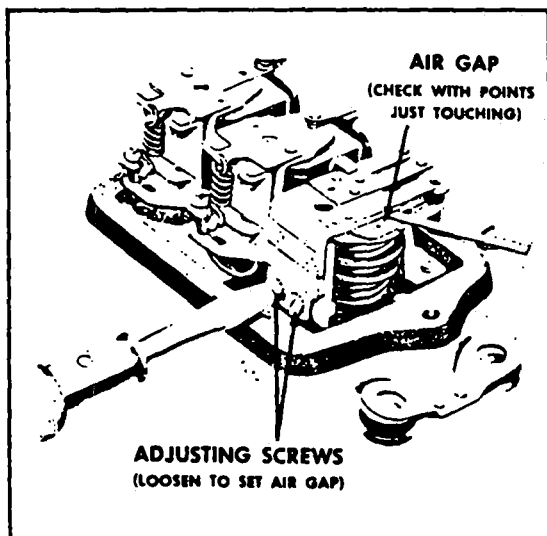

Figure 11-10. Cutout Relay Air Gap Check and Adjustment
a. Air Gap: Place fingers on armature directly above core and move armature down until points just close and then measure air gap between armature and center of core. (Refer to Figure 11-10.) On multiple contact point relays, make sure that all points close simultaneously. If they do not, bend spring finger so they do. To adjust air gap, loosen two screws at the back of relay and raise or lower the armature as required. Tighten screws after adjustment.